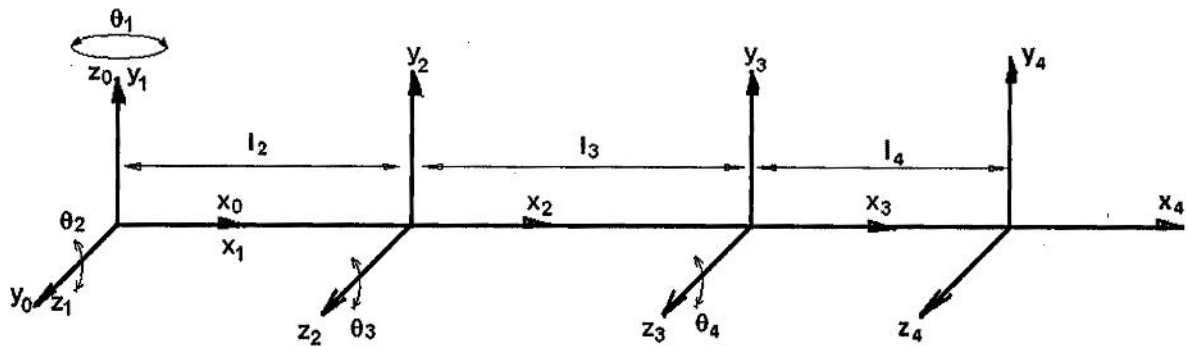

Fig. Q6
6. Find the Jacobian for the 4R robot arm of which the link coordinate diagram is shown in Fig. Q6. The link parameters are listed in Table Q6. 30